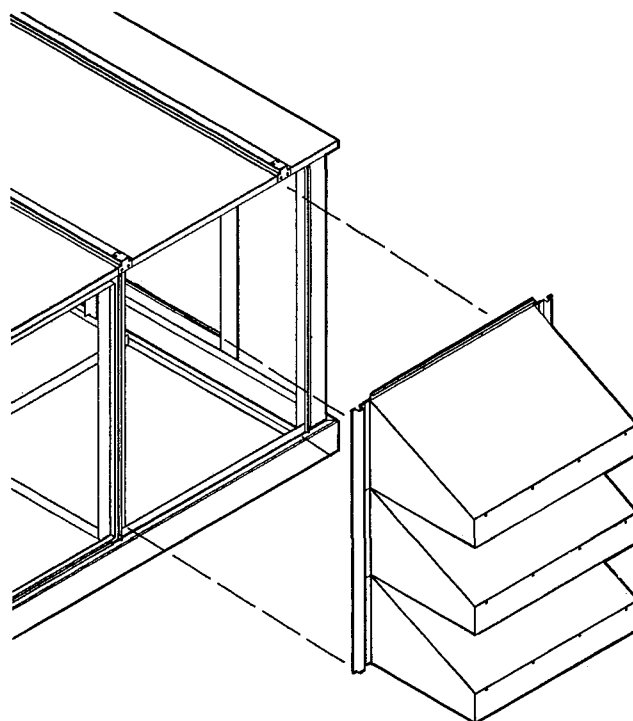

Fig. 11 — Economizer Hood Installation
13. See Fig. 11 and place economizer hood assembly over outdoor-air opening.